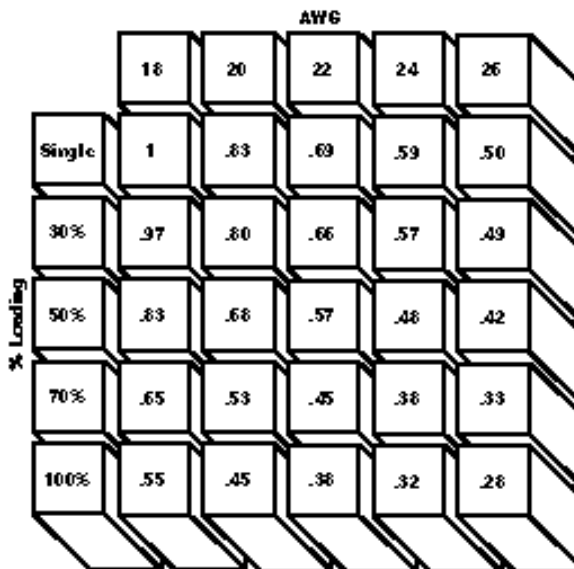

Figure 2
- Figure 2, the rating factor for 50% loading and 20 AWG [0.6mm²] wire is 0.68.